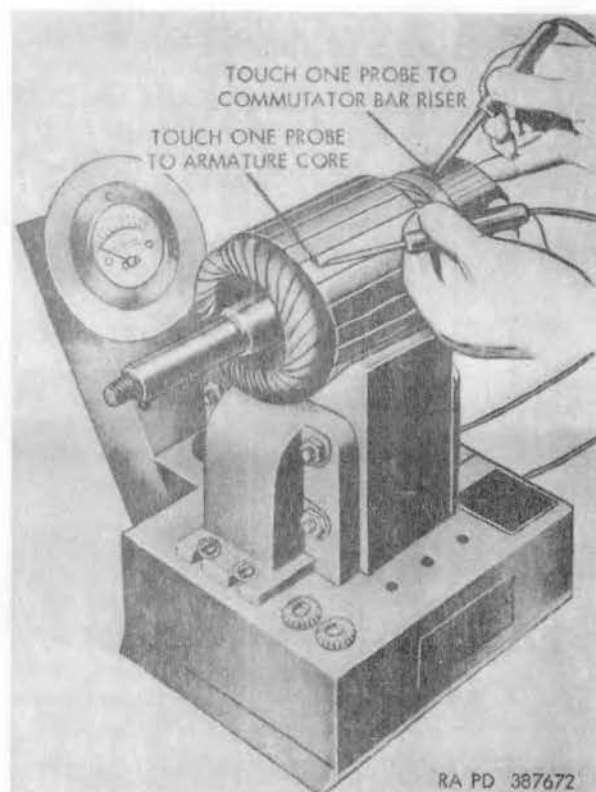

FIGURE 23. CHECKING FOR GROUNDS.
- (3) Check for grounds (fig. 23). Touch one probe of continuity tester to the armature shaft, or core, and the other, in turn, to each commutator riser.